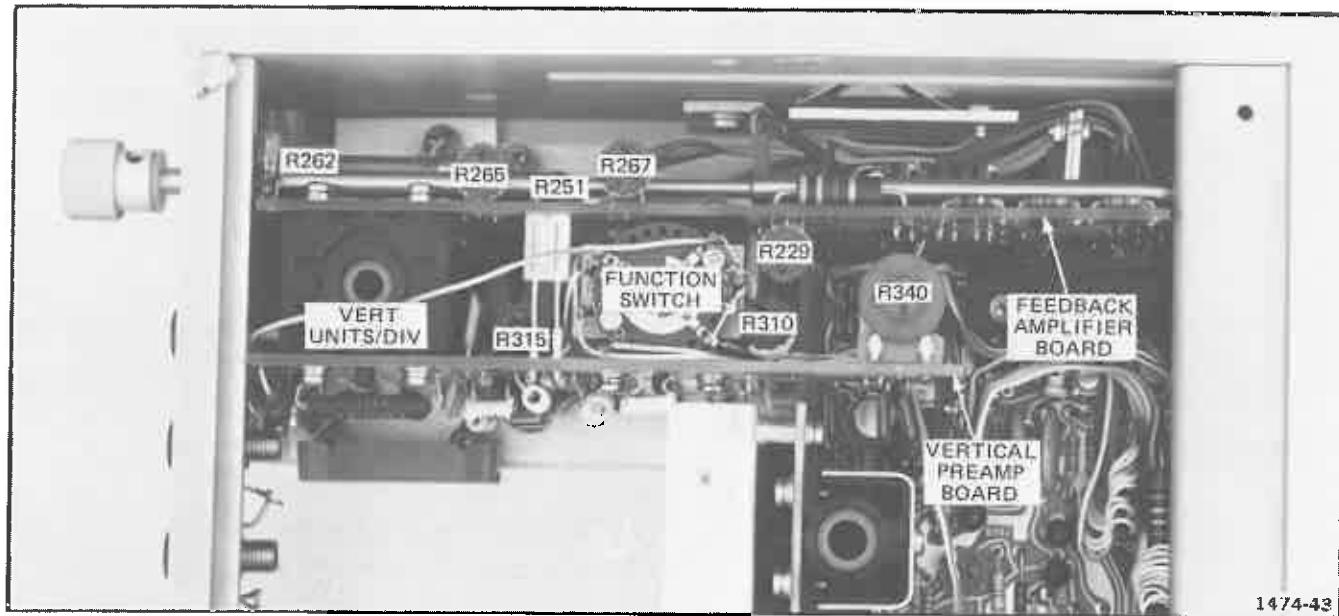

Fig. 5-4. Location of adjustments on the Vertical Preamp and Feedback Amplifier board.
d. ADJUST—R340, Vertical Preamp Balance, for no spot movement while switching between 5 mA and 5 pA. See Fig. 5-4 for location of R340.
b. ADJUST—R315, Vertical Looping, for minimum vertical trace separation (looping). See Fig. 5-4 for location of R315.